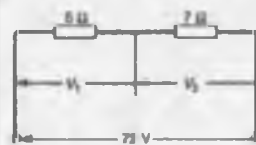

Figure 5.32
- 8 For the circuit shown in Fig. 5.32, find (a) V_1 , (b) V_2 , without calculating the current flowing.